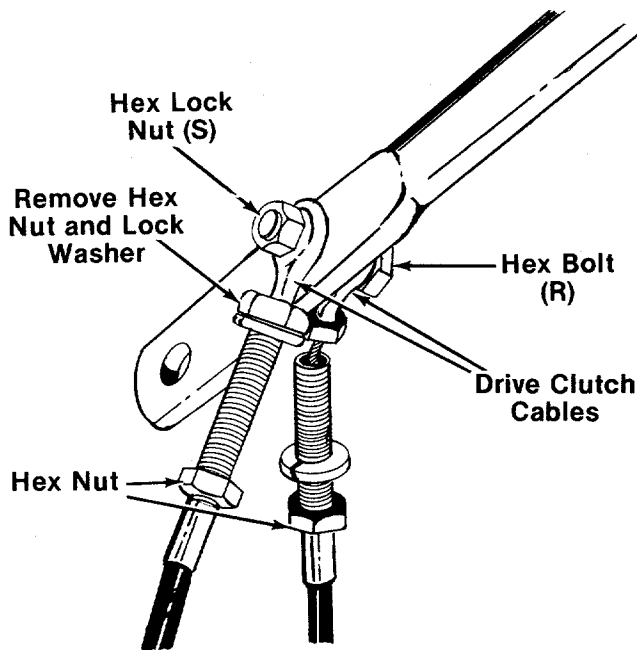

FIGURE 11.
1. The drive clutch cables are already attached to the unit. Attach the other end of cables to the upper hole of drive clutch lever (W), one on each side, using hex bolt (R) and hex lock nut (S). See figure 11.
2. Remove one nut and the lock washer from the end of each drive clutch cable. Thread the other hex nut all the way down the cable as far as it will go as shown in figure 11.